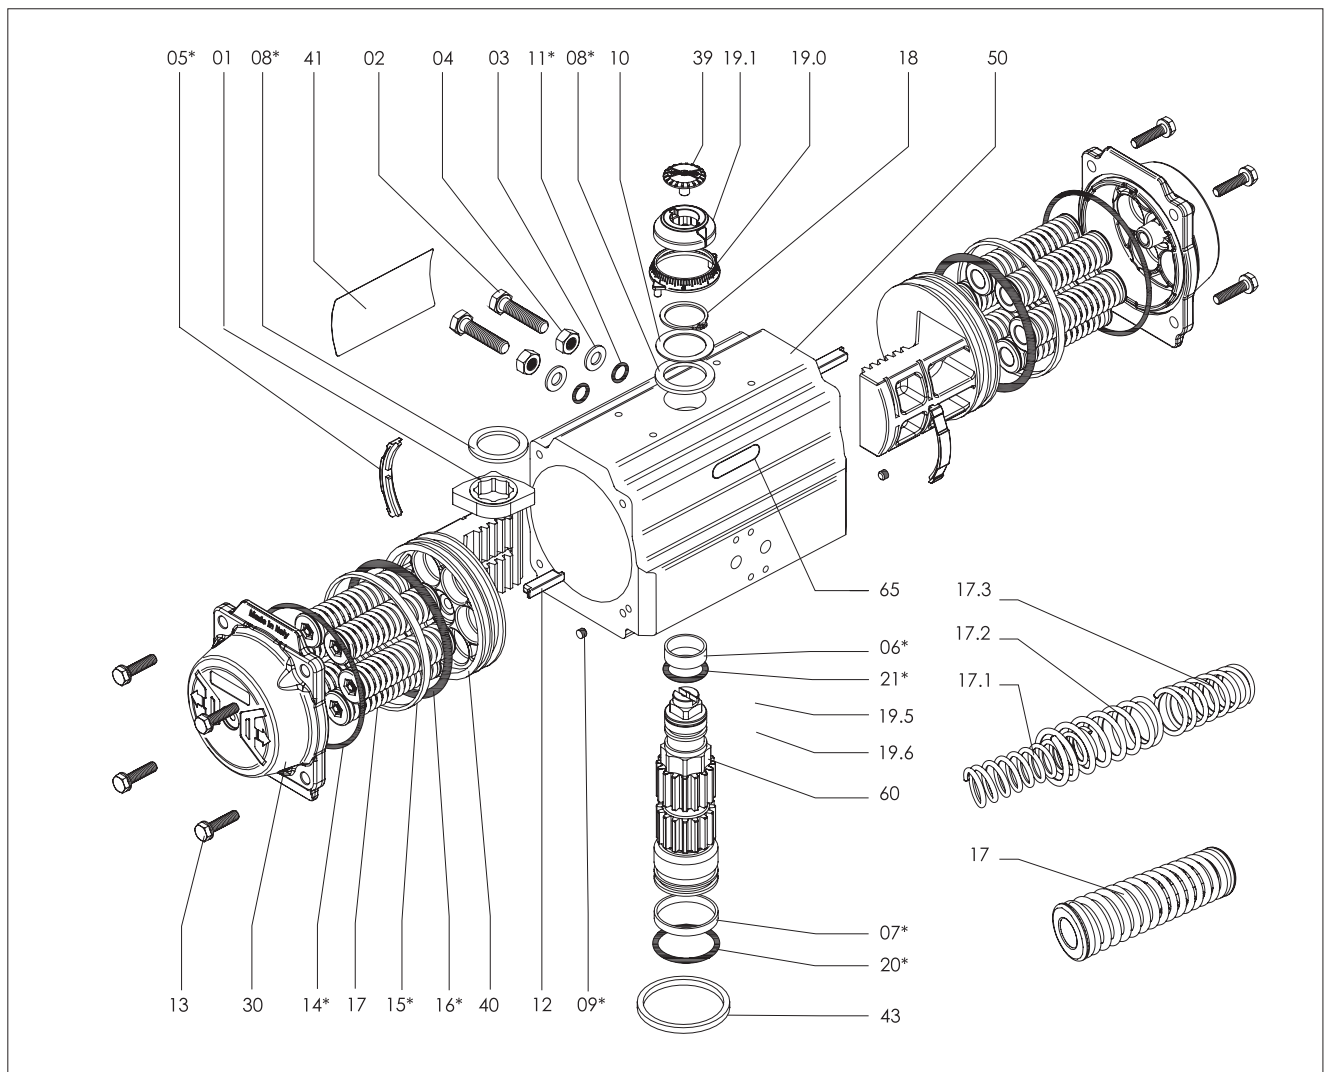

Figure 24.
- C. From **Figure 24**, the ballooned part number, part name and quantity required.
**TABLE 3 - PARTS LIST FOR (FIGURE 24)**